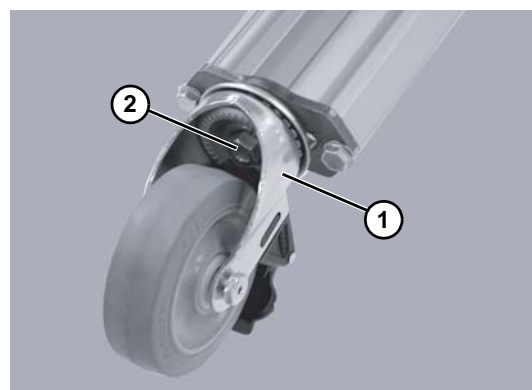

Figure 21
- Install caster (**Figure 21, item 1**) over carriage bolt (**Figure 20, item 1**).
- Place nut (**Figure 21, item 2**) on carriage bolt. Tighten nut to 177 in-lb (20 N-m).